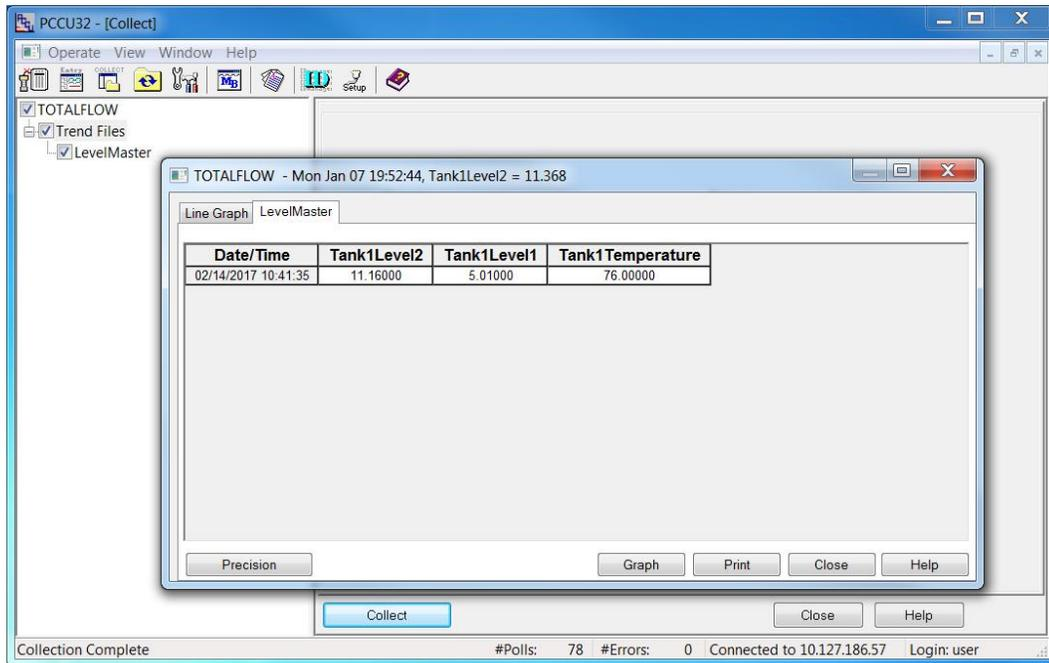

Figure 53: Verifying trending of the LevelMaster data (example)
5. Select the tab for the preferred view (graph or table) (Figure 53). Verify that the defined variables and their values are displayed as expected. Each variable defined in the trend file can be edited and corrected, or the variable can be deleted and redefined with the correct information from the Trend System screen.